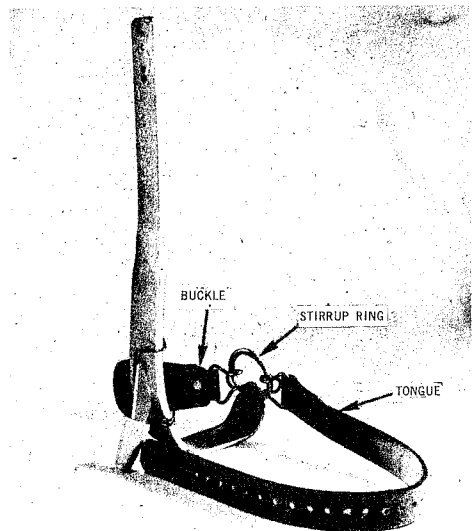

Fig. 5 — C Climber Foot Strap Installed on Right Climber
2.05 C Climber Foot Straps, Fig. 5, are used on the stirrup rings of adjustable climbers to fasten the climber to the foot. A C Climber Foot Strap consisting of a tongue and buckle that can be clipped to the climber stirrup ring is placed on the climber so that the buckle will be across the foot instep when fastened. The metal clips on the Buckle and Tongue straps are manufactured 1/32" oversize to permit attachment to the stirrup ring. After the clips have been properly engaged in the ring they must be closed tightly, by the user, with a 1 1/2 lb. drilling hammer or 9" sidecutting pliers to prevent them from becoming unsnapped.